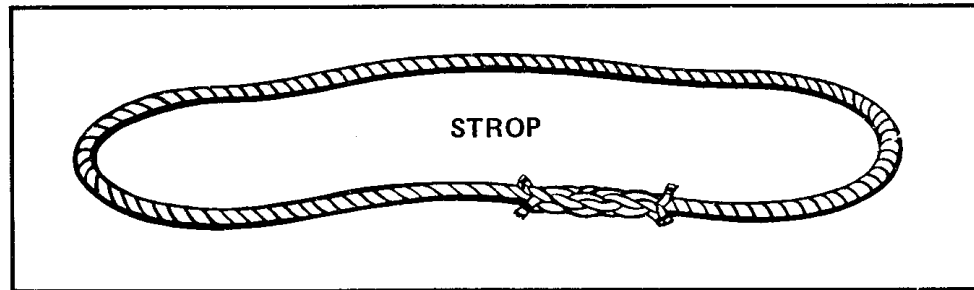

Figure 4-62 Strop
12. **Strop** — First of all, an object which is to be lifted must be rigged so that it can be lifted without damage or danger of dropping. For this purpose, you may be provided with a **strop**, which is a piece of rope with the ends spliced together. See Figure 4-62.